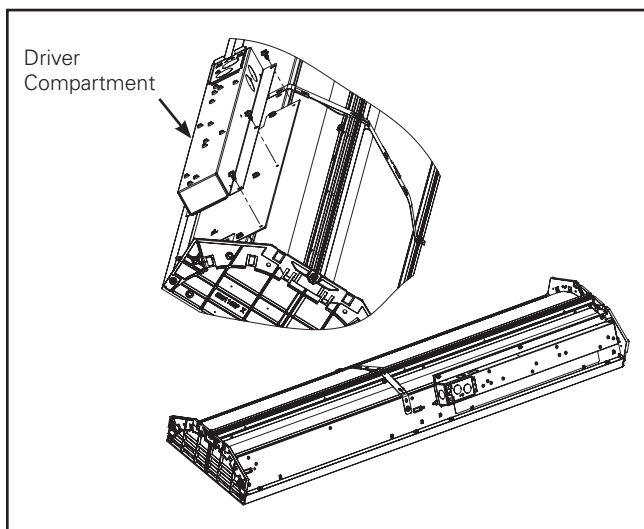

Figure 4.
4. Place the driver compartment and screw into place (Figure 4).